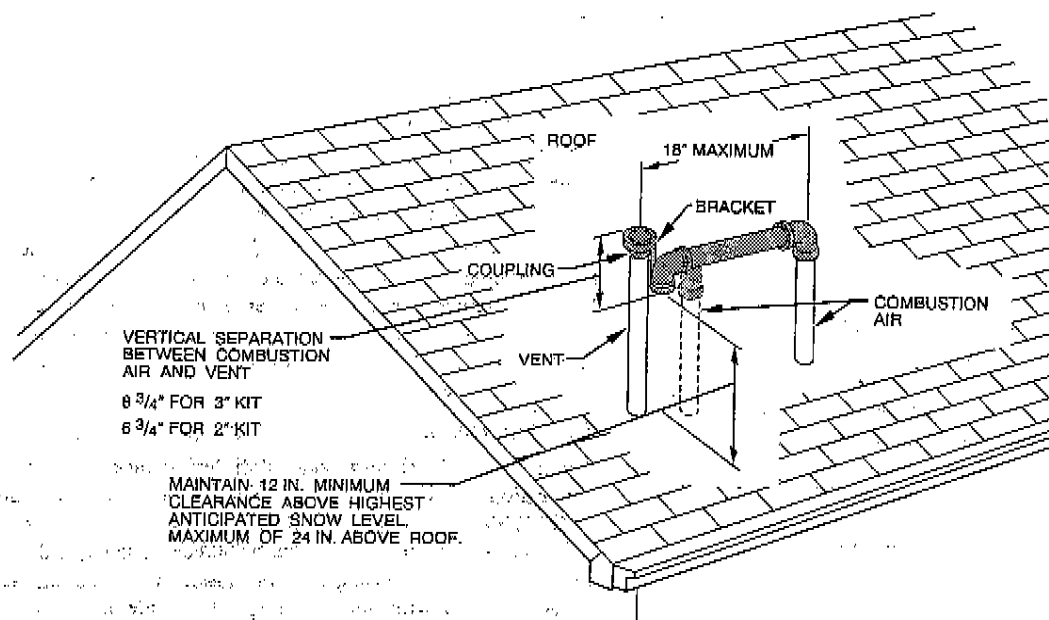

Fig. 30-Roof Termination (Preferred)
Combustion-air and vent pipe fittings must conform to American National Standards Institute (ANSI) standards and American Society for Testing and Materials (ASTM) standards D1785 (schedule-40 PVC), D2665 (PVC-DWV), D2241 (SDR-21 and SDR-26 PVC), D2661 (ABS-DWV), or F628 (schedule-40 ABS). Pipe cement and primer must conform to ASTM standards D2564 (PVC) or D2235 (ABS). See Table 7 for maximum pipe lengths and Fig. 30, 31, 32, 33, and 34 for exterior piping arrangements.
**WARNING:** All combustion-air and vent pipes must be airtight and watertight. Pipes must also terminate exactly as shown in Fig. 30, 31, 32, 33, and 34. Failure to follow this warning could result in property damage, personal injury, or death.
**NOTE:** Moisture in combustion-air intake may be result of improper termination. Ensure combustion-air intake pipe is similar to that shown in Fig. 30, 31, 32, 33, or 34 so it will not be susceptible to areas where light snow or other sources of moisture could be pulled in.
3. Use largest diameter pipe determined in (1) and (2) above for both pipes.
**NOTE:** Do not count elbows or pipe sections in terminations or within furnace. See shaded areas in Fig. 30, 31, 32, 33, and 34.
Combustion-air and vent pipes must terminate outside structure. A factory accessory termination kit must be installed in 1 of the installations shown in Fig. 30, 31, 32, 33, and 34. Four termination kits are available.
**NOTE:** Shaded parts in Fig. 30, 31, 32, 33, and 34 are considered to be termination. These components should NOT be counted when determining pipe diameter.
**NOTE:** Roof termination is preferred since it is less susceptible to damage, has reduced changes to intake contaminants, and has less visible vent vapors. See Fig. 30 or 31.
**Roof terminations** – Loosely install pipe coupling on properly cut vent pipe. Coupling must be positioned so bracket will mount as shown in Fig. 30.
For applications using combustion-air pipe option, indicated by dashed lines in Fig. 30, install 90° street elbow into 90° elbow, making U-fitting. A 180° U-fitting may be used.
- Check required dimensions as shown in Fig. 30, 32, or 33.